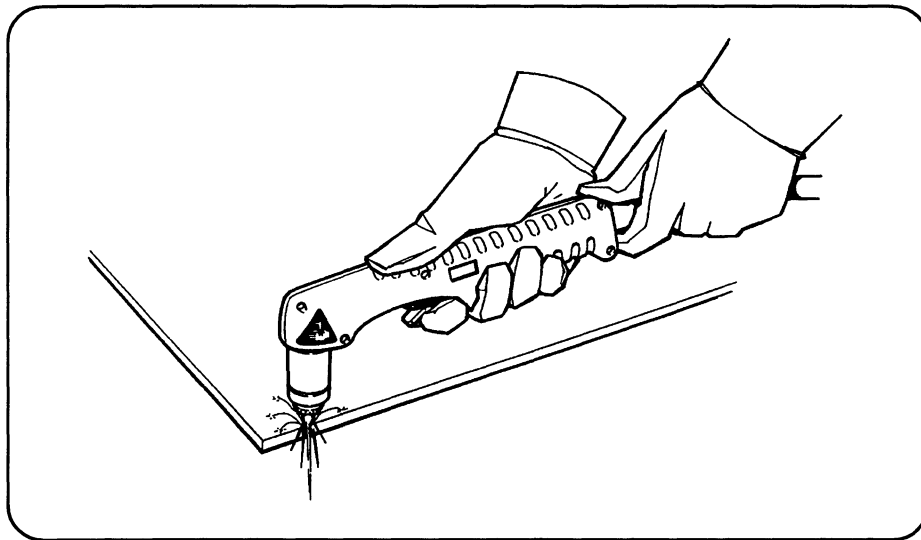

Figure 4-8 Starting a Cut
- Start cutting from the edge of the workpiece (Figure 4-8)